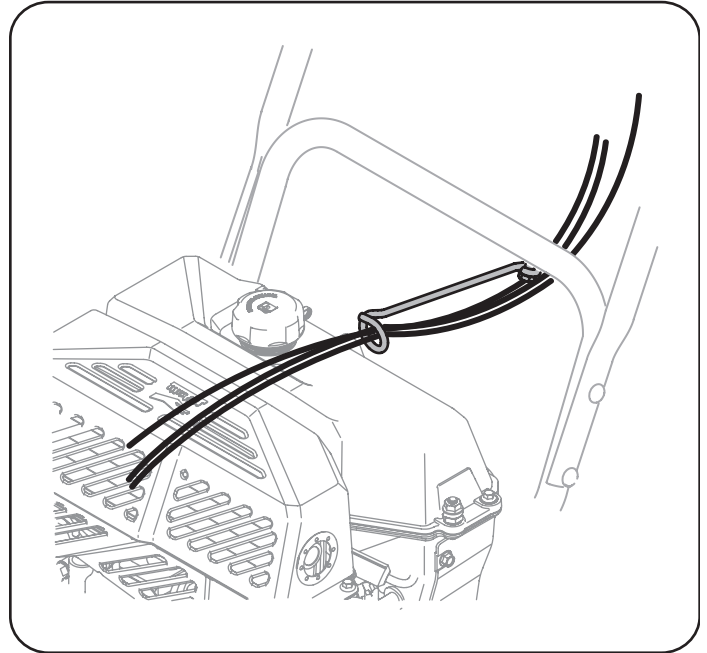

Figure 11
10. Check that all cables are properly routed through the cable guide on the engine. See Figure 11.
Holes are located in the plastic dash panel for convenient shear pin storage. See Figure 11. Refer to the Operation section for more information regarding shear pin replacement.